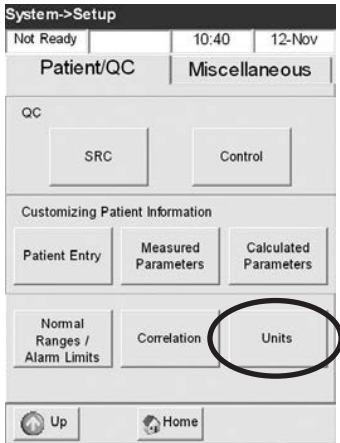

Fig. 3-28 Select Units
2. In the **<System Setup>** menu, press **<Units>** (Fig. 3-28).